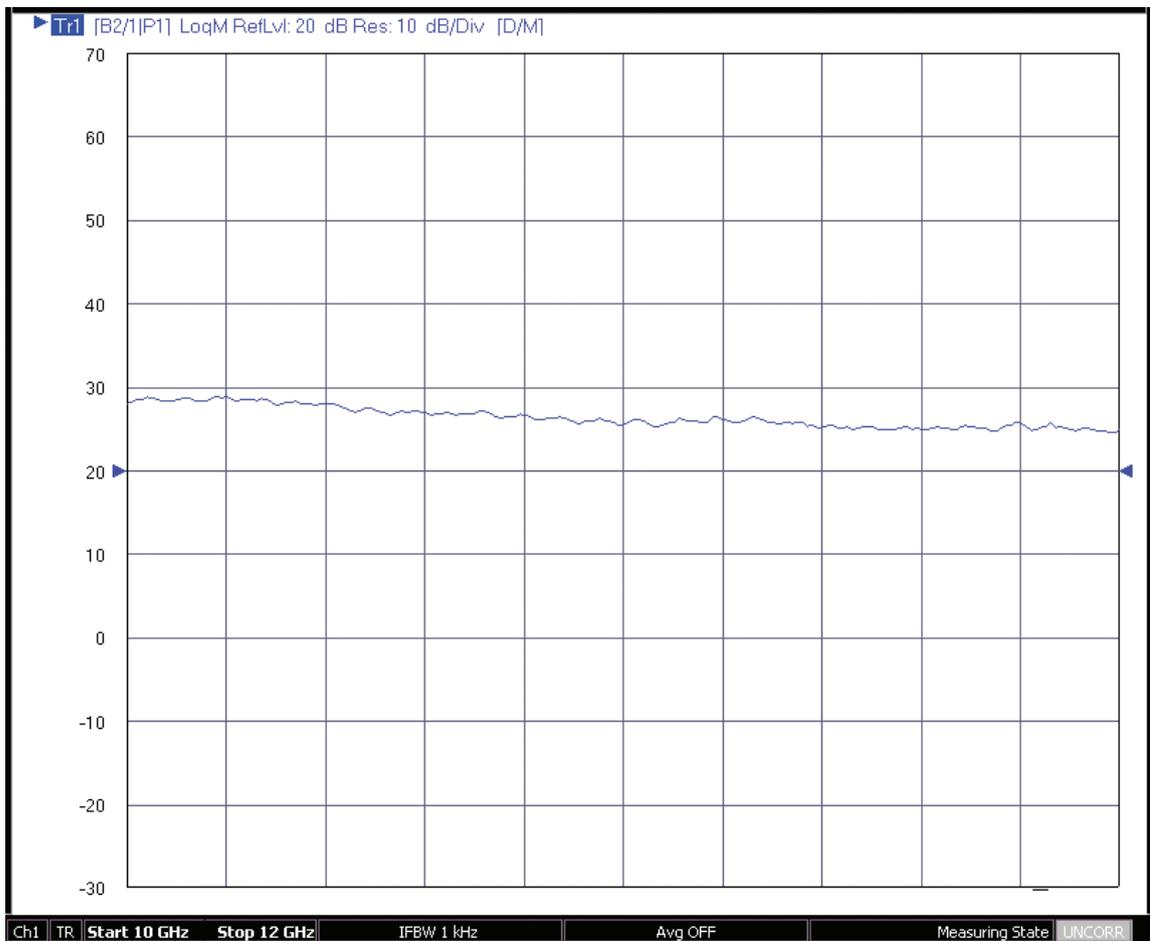

Figure 12: Example swept frequency IM3 Measurement in dBc
- 6) Your display should look like Figure 12, which shows the plot of the IM3 product in dBc.